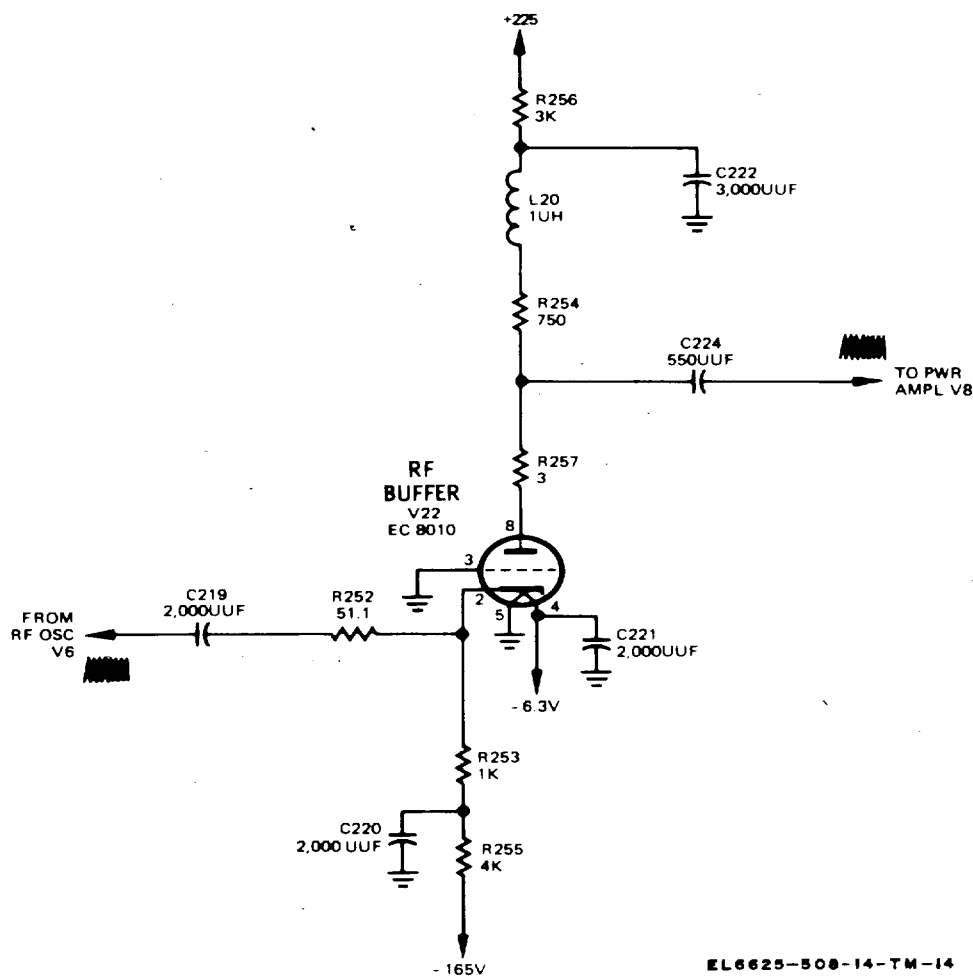

Figure 5-5. Rf buffer amplifier circuit, schematic diagram
a. Rf buffer amplifier, V22 (fig. 5-5) is a grounded grid amplifier that isolates the rf oscillator from the power amplifier.